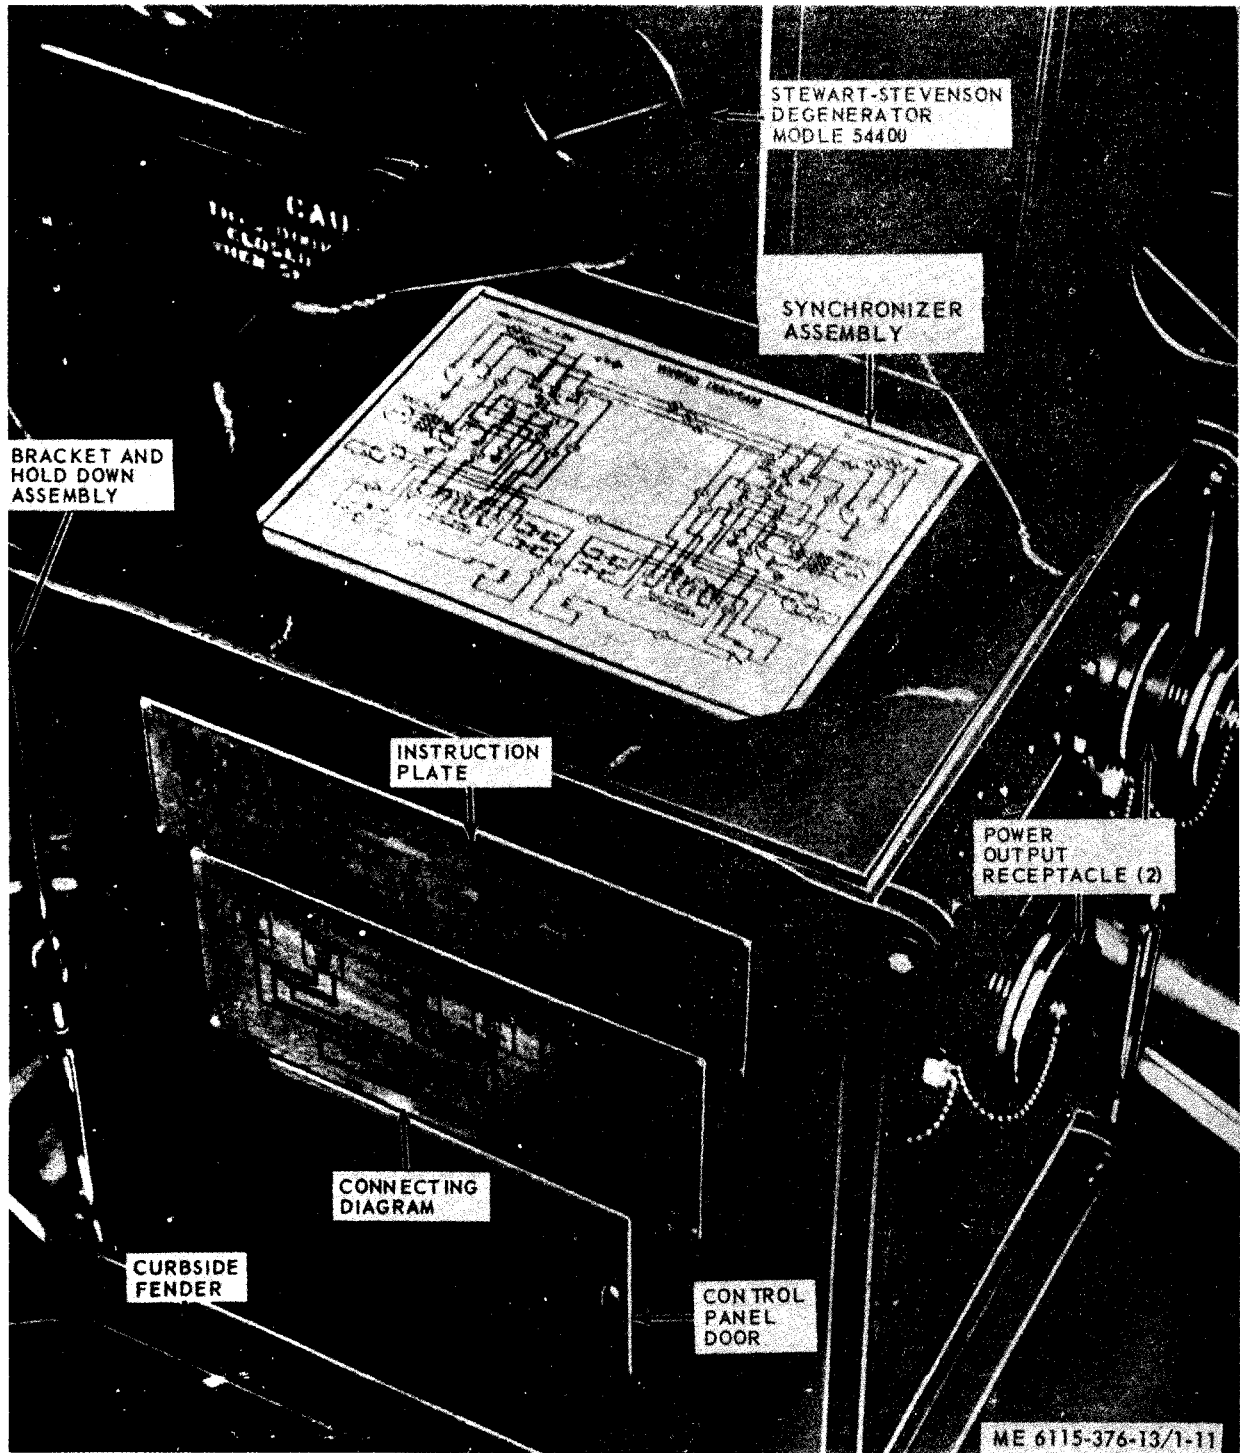

Figure 1-11. Synchronizer assembly (PU-407/M only).
*j. Synchronizer Assembly (P U-4 07/M) (fig. 1-11).*